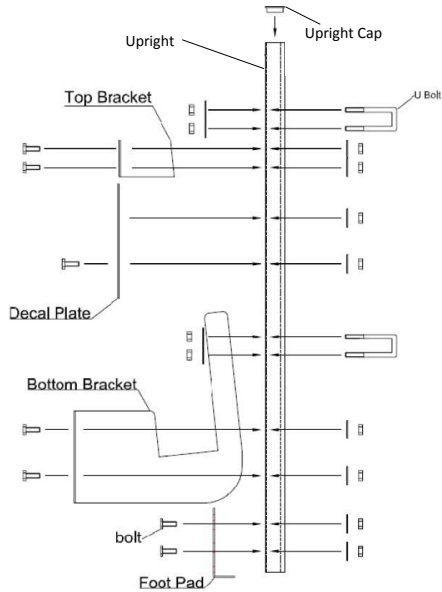

Figure 1.1: Sheet Handler Attachment assembly
1. Assemble each attachment as per figure 1.1.